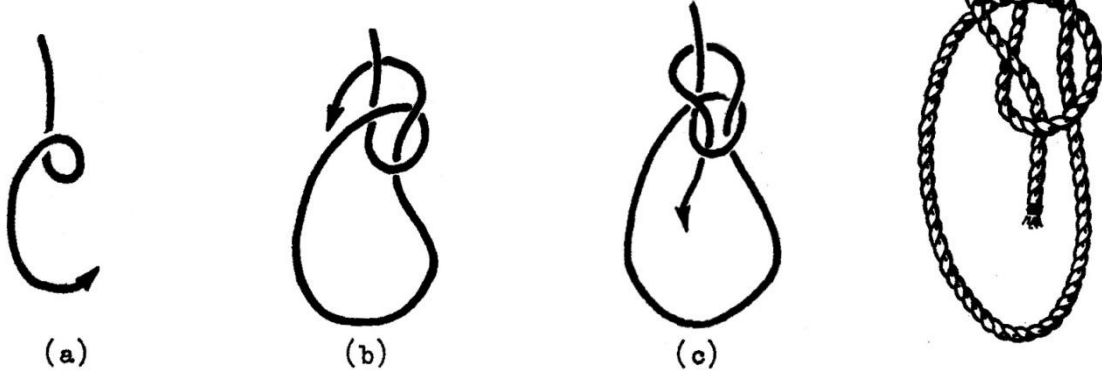

FIG. 11. BOWLINE.
3.11 Bowline. A bowline (see Fig. 11) has many uses; such as to make a loop in the end of a rope where splicing is not necessary, for use as a sling and securing livestock among many other uses. Its main features being that it will not slip and is easily loosened. See Figs. 11a, b and c for method of making the knot.